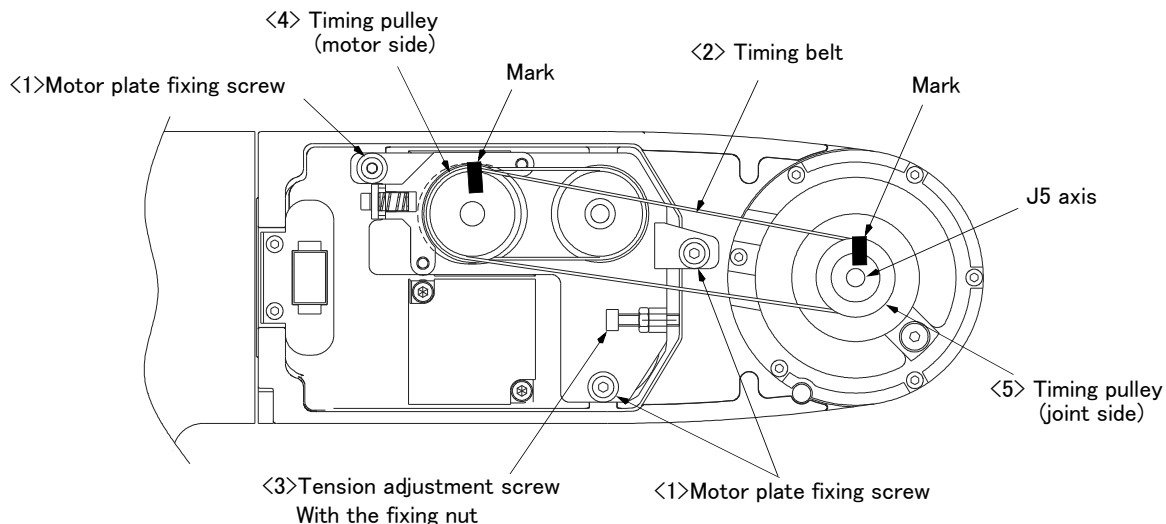

Fig.5-9 : Inspection, maintenance and replacement of J5 axis timing belt
The reference figure at inspection, adjustment, and replacement of the timing belt is shown in Fig. 5-9.
- 3) Make marks on the timing belt <2> and timing pulleys <4> and <5> with a felt-tip pen as shown in Fig. 5-9 so that the engagement of the timing belt <2> and timing pulleys <4> and <5> does not deviate.